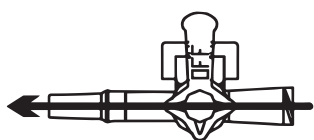
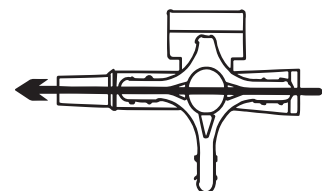

Figure 8
Figure 12
3. Turn tap OFF to the septum direction, and connect to the patient to measure the blood pressure (Figure 8 or Figure 12).
8. Turn tap OFF to the septum position for blood pressure measurement. (Figure 8 or Figure 12).